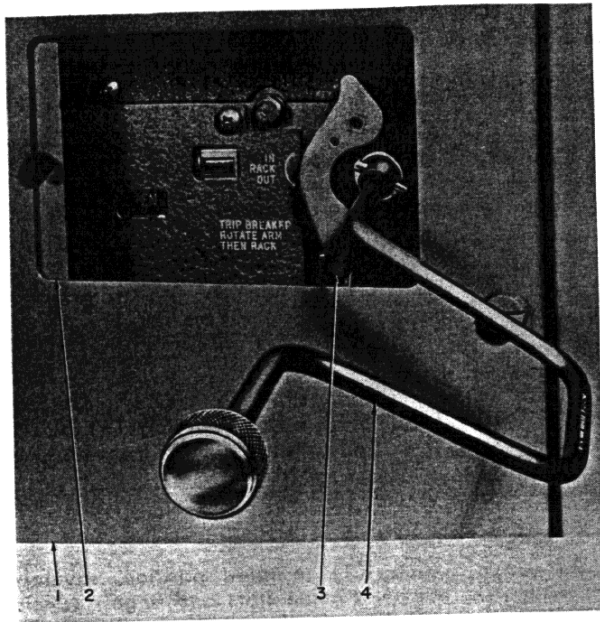

Fig. 3 — Method of Racking Circuit Breaker
Engage racking crank (4, Fig. 3) and push racking unlocking lever (3) to left, then rotate racking crank counterclockwise only until resistance to motion is felt. (DO NOT FORCE.)
To rack circuit breaker to "TEST" position, push racking unlocking lever (3, Fig. 3) to left, rotate racking crank approximately $\frac{1}{4}$ turn clockwise, then release unlocking lever. Continue cranking until racking mechanism automatically stops at "TEST" position.
FOR SAFETY: When racking circuit breaker to "CONNECTED" position, close compartment door (1, Fig. 3) and insert racking crank (4, Fig. 3) through sliding panel (2, Fig. 3).
(See Fig. 3)